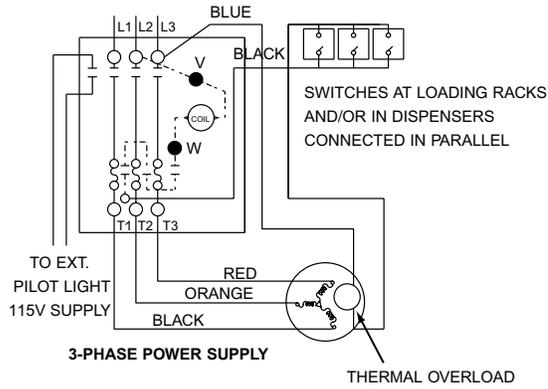

FIGURE 7
f. Installations using loading racks only, may be connected for two or three wire control. (See Fig. 7 or 9). For three wire control, connect a black wire from terminal 3 in the magnetic starter to the “on-off” switch. Connect a red wire from terminal 2 in the magnetic starter to the “on-off” switch.
Connect the pump motor leads to terminal T1, T2 and T3 of the magnetic starter observing color code shown in Fig. 7, 8 or 9. With ample product in the tank and the system purged of air, start the motor and make a pressure gauge reading of the system pressure with the discharge valves closed; or, open one valve and calculate pumping rate.